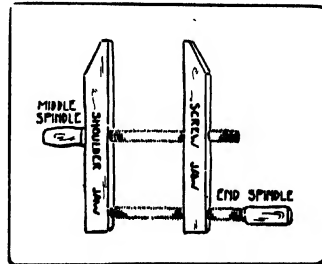

Fig. 173. Handscrew.
*Handscrews*, Fig. 173, consist of four parts, the shoulder jaw and the screw jaw, made of maple, and the end spindle and the middle spindle, made of hickory. The parts when broken can be bought separately. Handscrews vary in size from those with jaws four inches long to those with jaws twenty-two inches long. The best kind are oiled so that glue will not adhere to them. In adjusting the jaws, if the handle of the middle spindle is held in one hand, and the handle of the